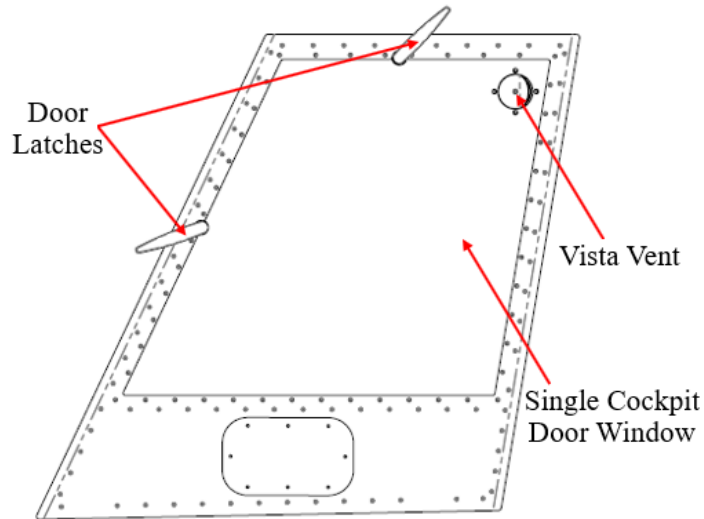

Figure 3: Door Handles on Left Hand Door (Outside View)
2. Remove two door latches at the top and front of the door (Figure 3).
8. Remove and discard old single cockpit door window (Figure 3).